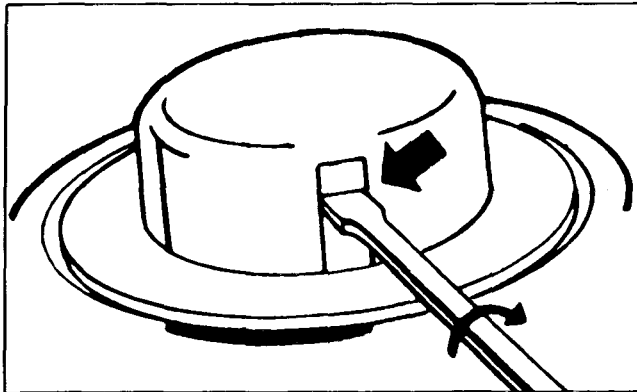

Figure 155
1. Insert a medium blade screwdriver into one of the two slots on the bottom of the spool and twist 1/4 turn to release the spool. See Fig. 155.